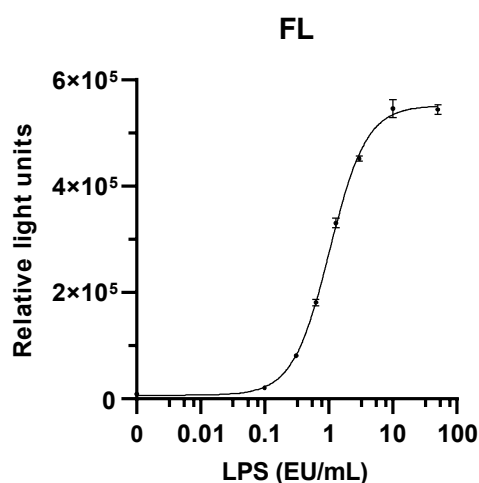

Figure 1. Example of LPS calibration curve.
The *iLite*[®] TLR4 Assay Ready Cells are engineered cells optimized to express Firefly luciferase under the control of a NFκB responsive promoter. Binding of LPS to membrane bound Toll-like Receptor 4 (TLR4) results in activation of the NFκB responsive Firefly luciferase reporter gene construct. *iLite*[®] TLR4 Assay Ready Cells also contain the Renilla Luciferase (RL) reporter gene, under the control of a constitutive promoter. The constitutive expression of RL allows normalization of LPS induced FL activity, and renders assay results independent of serum matrix effects. The luciferase signal can be measured in a luminometer following addition and incubation of luciferase substrate. The Firefly luciferase signal is proportional to the activity of LPS in a sample (Fig.1).